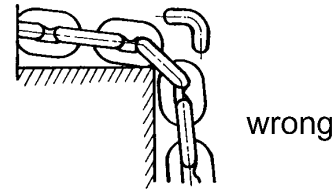

Figure 8
- Prevent the chain from dragging over sharp edges or corners. This will cause links to weaken, bend, or break. See Figure 8.